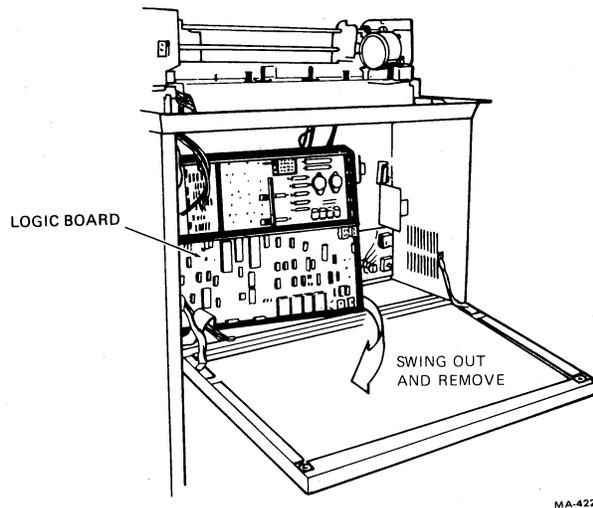

Fig. 22-Logic Board Removal and Installation
- (c) Disconnect all the connectors from the logic board (Figures 22 and foldout).
- Disconnect the connectors from J2 and J4 on the logic board (Figure 22).